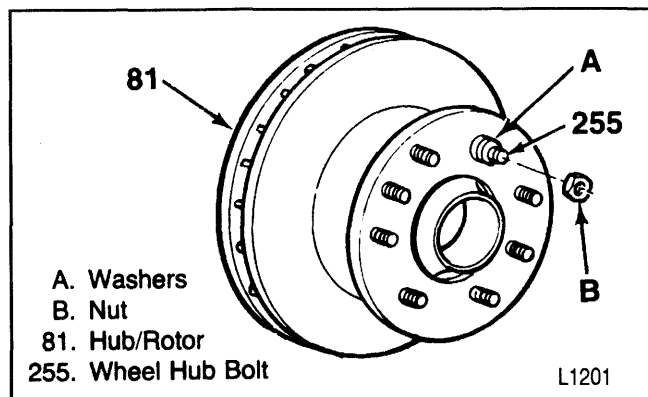

Figure 49—Installing the Hub Bolts
Remove or Disconnect (Figure 49)
2. Wheel hub bolts (237) with a press (figure 49).
- Support the hub/rotor (238) using J 9746-02 and the press bars.
Install or Connect (Figure 49)
1. Wheel hub bolts (237) into the hub/rotor (238).
- Place four washers onto the bolt, then fasten a nut onto the bolt until the nut bottoms on the washers (figure 49).
- Tighten the nut until the bolt fully seats into the hub/rotor (238).